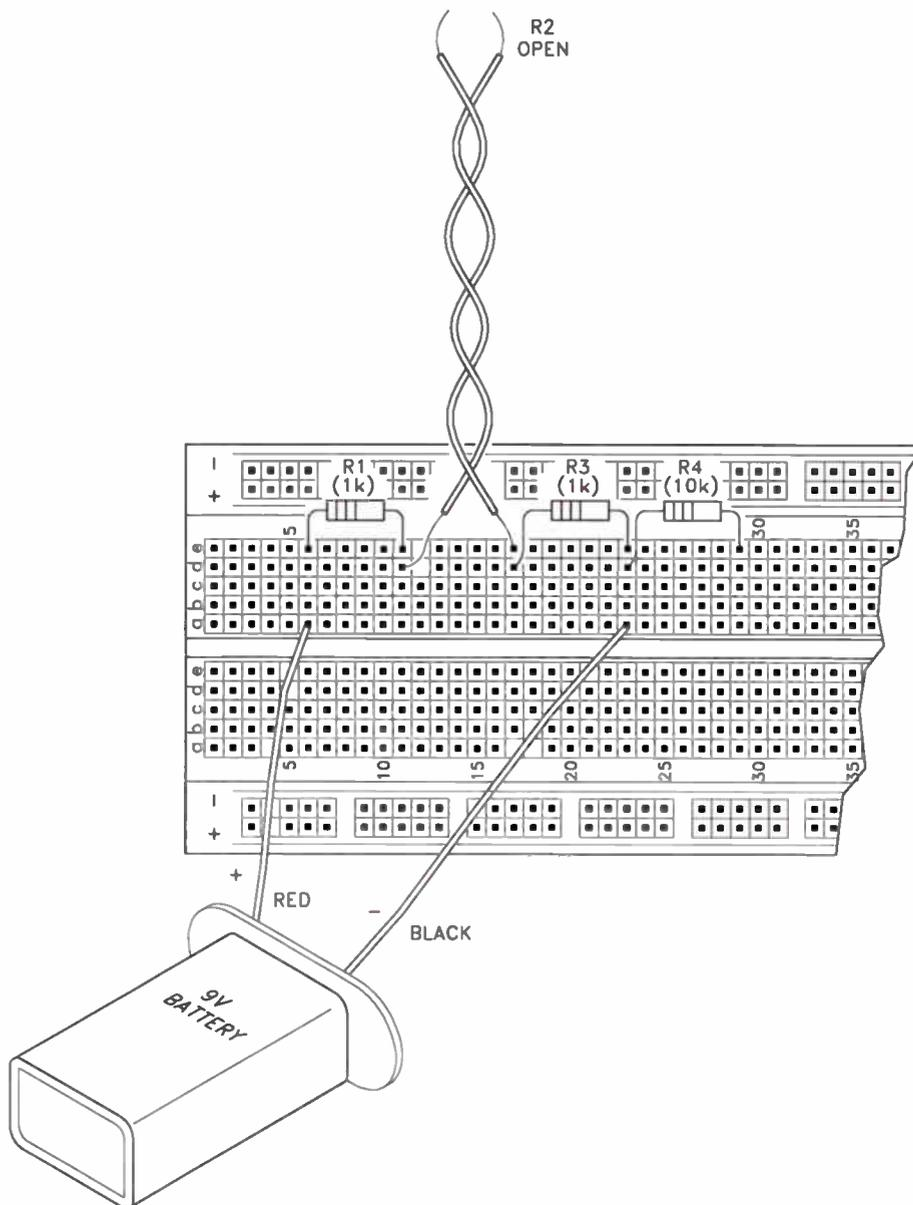

Figure 2-4. A circuit using the simulated “open” resistor.
**Step 5.** With the twisted pair still connected to the breadboard socket, untwist the top portion as shown in Figure 2-4. The twisted pair now simulates a burned-out resistor. Again, measure the voltage across R1, R2, and R3. Record your readings in Table 2-1 under R2 Open.